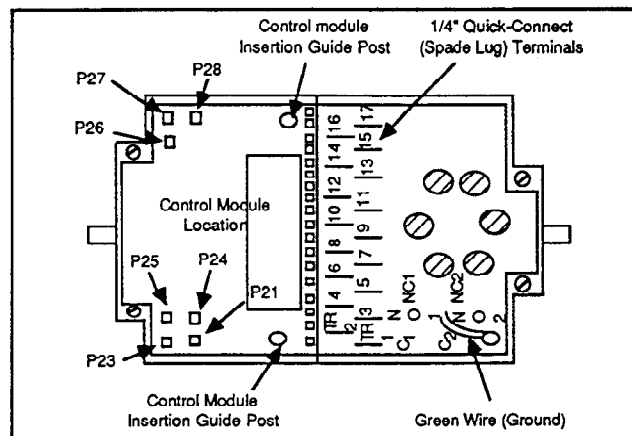

Figure 5. Terminal Board Connections and Control Module Location
(See Figure 5)
(See Figure 5 for terminal designations)
(See Figures 5 and 6)
1. Removing the four (4) single slotted screws on the top of the motor cover.
4. Run the motor until the stop lever on the output gear is accessible (See Figures 5 and 6):
6. If the field wiring is correct and the motor fails to run, remove the control module and check motor function using the following procedure (See Figure 5):